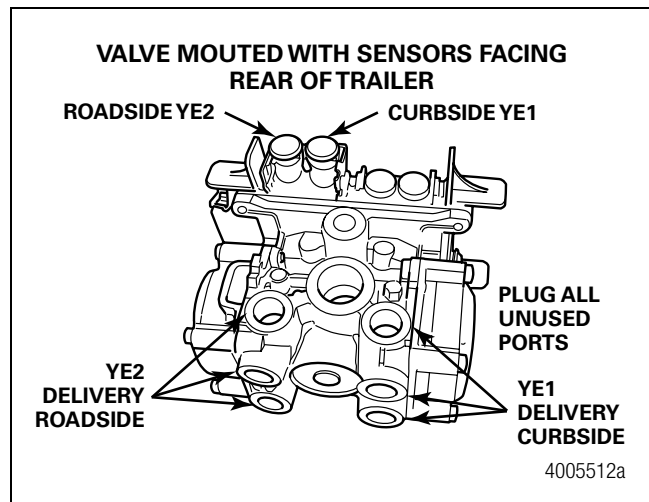

Figure 21
- If the ECU/dual modulator valve assembly is mounted with the sensors facing the REAR of the trailer, the air lines for the three delivery ports located under the YE2 sensor connector must be routed to ROADSIDE; the air lines for the three delivery ports on the opposite side of the valve must be routed to CURBSIDE. Figure 21.